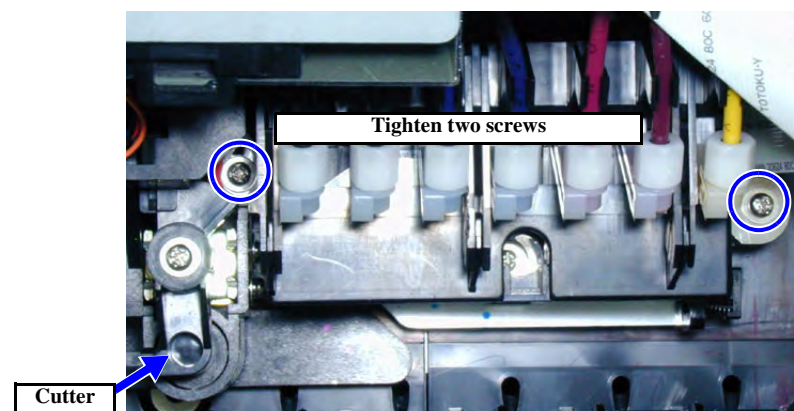

Figure 5-45. Head Slant Adjustment 1/2
2. Loosen the right and left screws for the Head Holding Plate. (See Figure 5-45)